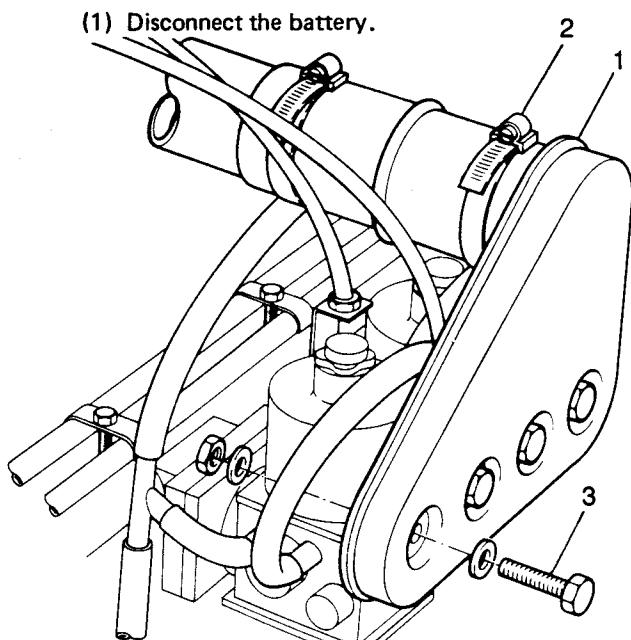

Fig C4.1
- (2) Refer to Fig C4.1. Remove the air intake box (1) by disconnecting the air inlet hose (2) and removing the four bolts (3) holding the box to the carburetters. (Note that the bolts have loose nuts and washers behind the box).